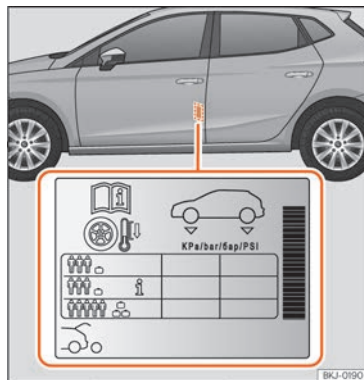

Fig. 276 Location of the tyre pressure sticker.
- Adjust tyre pressure to the load being carried by the vehicle » **Fig. 276**.
The tyre inflation pressures are listed on a sticker on the rear of the front left door frame »» Fig. 276.
Depending on the vehicle, tyre pressure can be adjusted to medium load to improve driving comfort (tyre pressure **i** »» Fig. 276). When driving with comfort tyre pressure fuel consumption may increase slightly.
The tyre pressure must be adjusted according to the load the vehicle is carrying. If the vehicle is going to carry the maximum load, the tyre pressure should be increased to the maximum value indicated on the sticker »» Fig. 276.
pressure of 4.2 bar as indicated on the tyre pressure label »» Fig. 276.
- The driver is responsible for ensuring that all of the vehicle tyres are correctly inflated to the right pressure. The recommended tyre pressure is indicated on the label »» Fig. 276.
- When the tyres are cold, tyre pressure should be that indicated on the label »» Fig. 276.